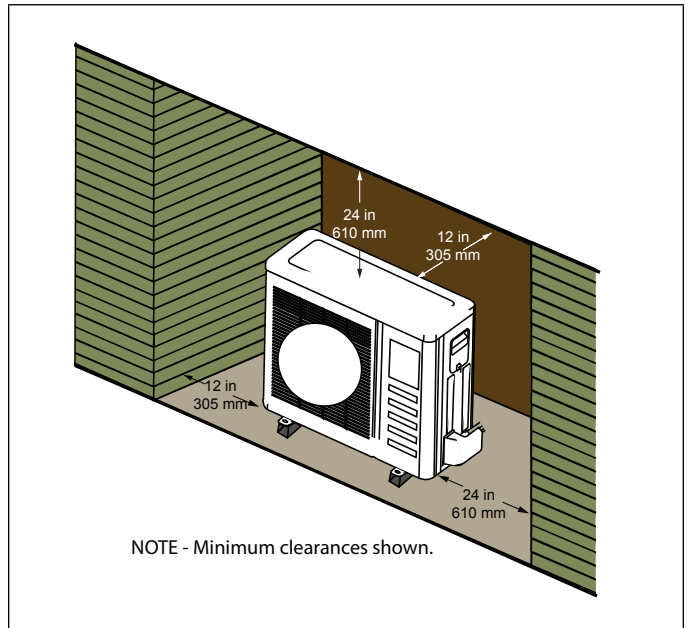

Figure 12. Unit installed in Alcove
- Outdoor unit can be installed in a alcove or under a roof overhang as illustrated in “Figure 12. Unit installed in Alcove”.